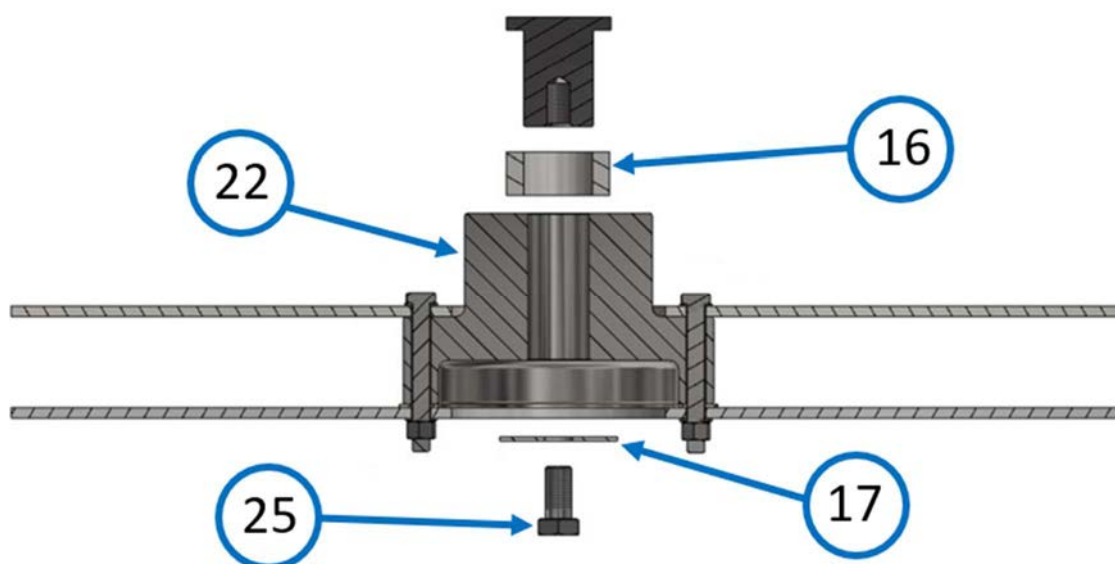
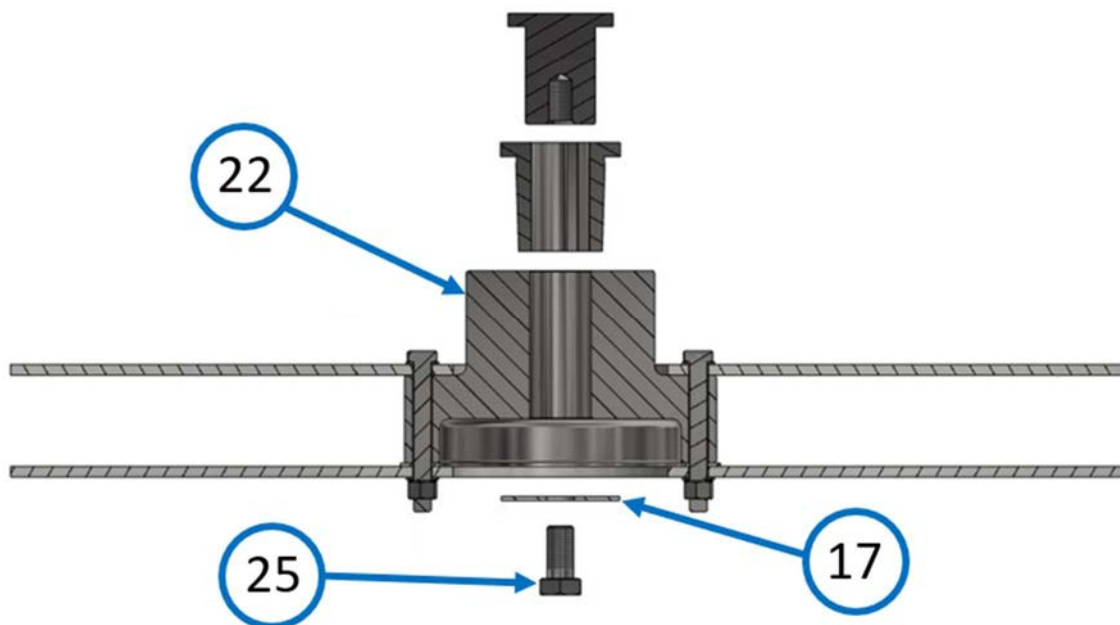

Figure 2.15: installation of hub with internal hub boss and cylindrical bore
Figure 2.16: installation of hub with internal hub boss and bushing
COFIMCO can supply two different types of hub with internal hub boss: with cylindrical bore (see figure 2.15) or with cylindrical bore for bush installation (see figure 2.16).
- 1) **Hub with internal hub boss with cylindrical bore:** anchored directly to the shaft that transmits the motion; for the procedure please refer to figure 2.15.
Put the washer [17] on the flange and tighten the bolt [25] to the shaft, as shown in figure 2.15.